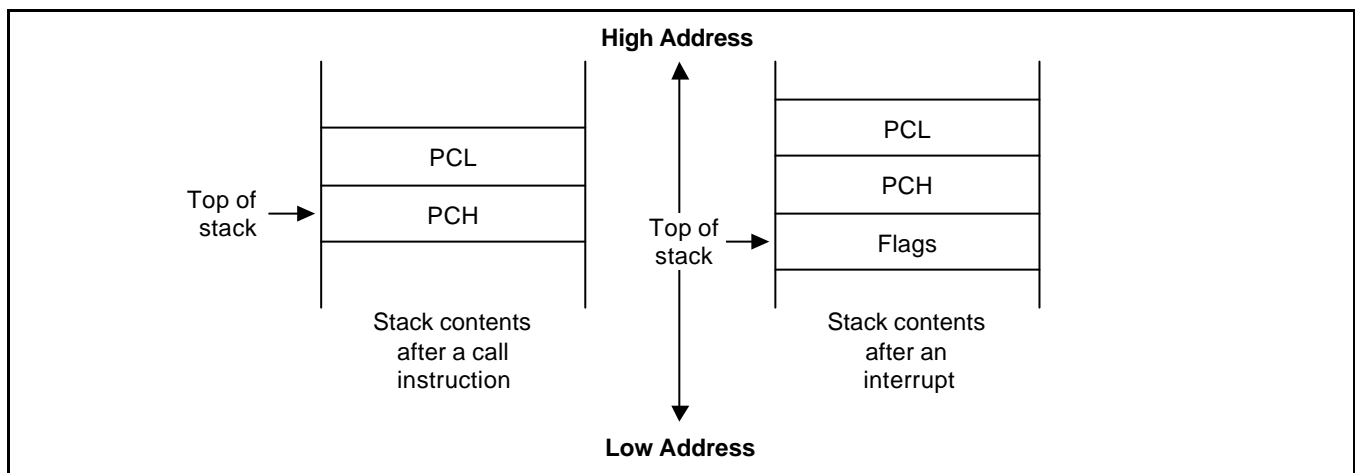

Figure 2-17. Stack Operations
Return addresses for procedure calls, interrupts, and data are stored on the stack. The contents of the PC are saved to stack by a CALL instruction and restored by the RET instruction. When an interrupt occurs, the contents of the PC and the FLAGS register are pushed to the stack. The IRET instruction then pops these values back to their original locations. The stack address value is always decreased by one before a push operation and increased by one *after* a pop operation. The stack pointer (SP) always points to the stack frame stored on the top of the stack, as shown in Figure 2-17.